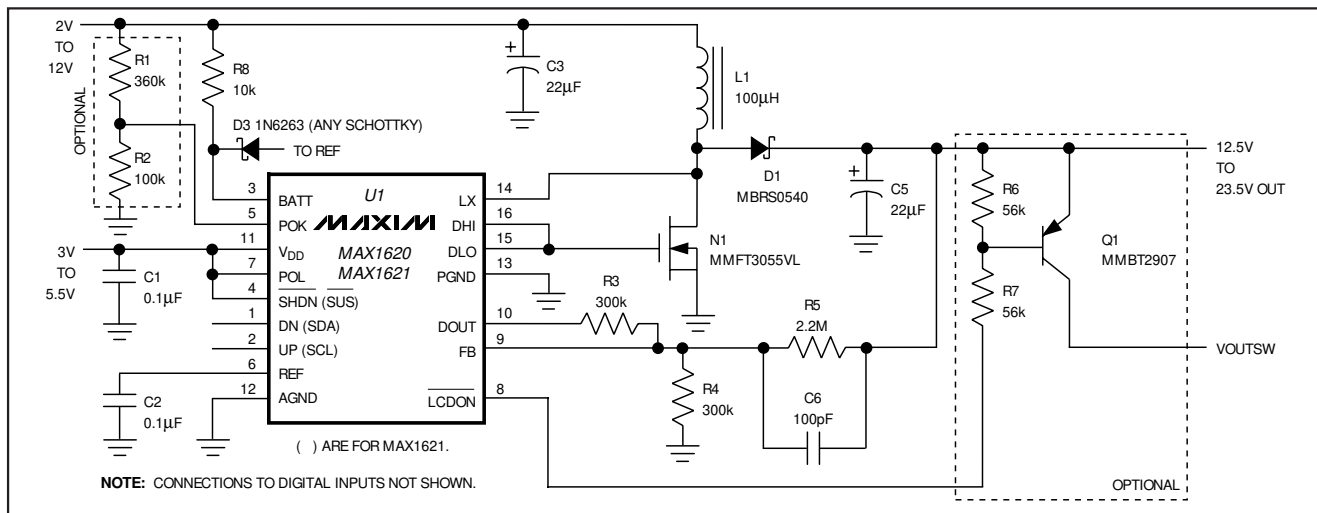

Figure 4. Typical Operating Circuit—Positive Output
To select a positive output voltage, tie the polarity pin (POL) to V_{DD} and use the typical boost topology shown in Figure 4. FB regulation voltage is 1.5V. For optimum stability, V_{OUT} should be greater than 1.1 (V_{BATT}).
To prevent uncontrolled boosting when the output is disconnected, the feedback resistors must sense the boosted voltage rather than the output of the $\overline{LCDON}$ switch (Figure 4).
Separate voltage sources can supply the inductor (L1) and the IC (V_{DD}). This allows operation from low-voltage batteries as well as high-voltage sources because chip bias (150 μ A) is provided by a logic supply (3V to 5.5V) while output power is sourced directly from the battery to L1. Conversely, L1 and V_{DD} can also be supplied from one supply if it remains with V_{DD} 's operating limits (3V to 5.5V). If L1 and V_{DD} are fed from the same voltage, D3 and R8 (Figures 4, 5, 6, and 10) can be omitted, and BATT may be connected directly to V_{DD} .
The minimum output voltage is set with a resistor-divider (R4-R5, Figure 4) from V_{OUT} to AGND. The FB threshold voltage is 1.5V. Choose R4 to be 300k Ω so that the current in the divider is about 5 μA . Determine R5 as follows:
The DAC is adjustable from 0V to 1.5V in 32 steps, and $1\text{LSB} = 1.5\text{V} / 31$. DAC adjustment of V_{OUT} is provided by adding R_3 to the divider circuit (Figure 4). Be sure that $V_{\text{OUT,MAX}}$ does not exceed the LCD panel rating.
- 3) As an input sensing output cutoff for positive outputs. Connect POK to a voltage divider to sense the input voltage. The output is switched on only when the input reaches the set level (Figure 4).
To control the open-drain output $\overline{\text{LCDON}}$ by sensing the input voltage, connect a resistor-divider (R_1 - R_2 , Figure 4) from V_{BATT} to POK. Choose $R_2 = 100\text{k}$. For example, if the minimum battery voltage is 5.3V, determine R_1 as follows: